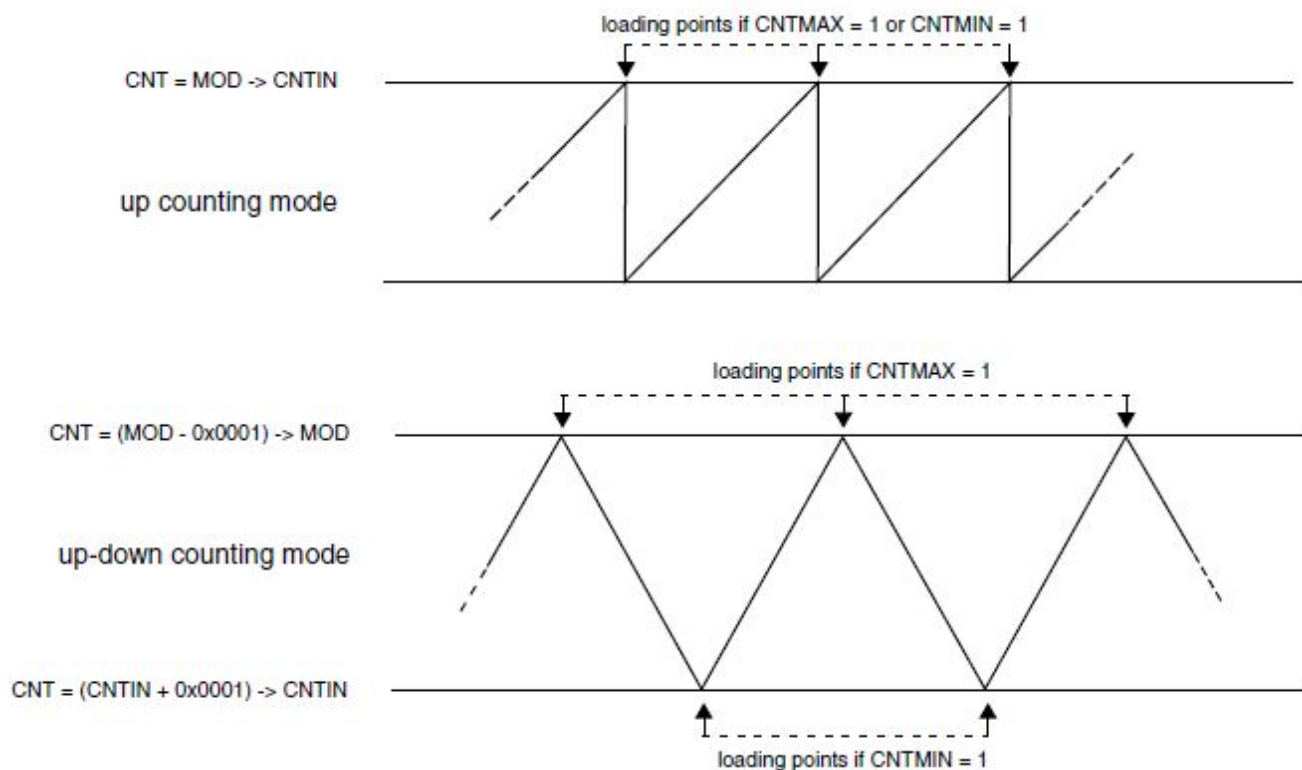

Figure 17. Boundary cycles and loading points
- In Up-Down Counting mode (Up-Down Counting), the boundary cycle is defined as when the counter turns from down to up counting and up to down counting. In the up-down counting mode, the loading points are selected by SYNC[CNTMIN] and SYNC[CNTMAX], as indicated in Figure 17.
Figure 17 shows the boundary cycles and the loading points. The loading points are safe places for register updates, thus allowing a smooth transitions in PWM waveform generation.